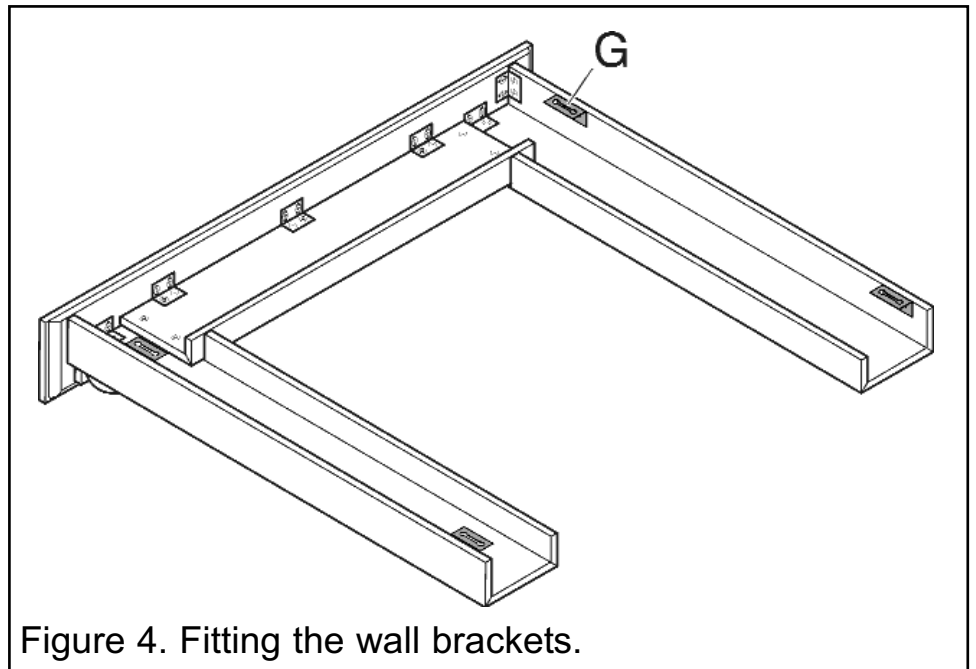

Figure 4. Fitting the wall brackets.
- Supplied with the surround are four wall mounting brackets (G). Locate these to the pre-drilled holes in the surround legs and secure using eight (F) screws (See figure 4).